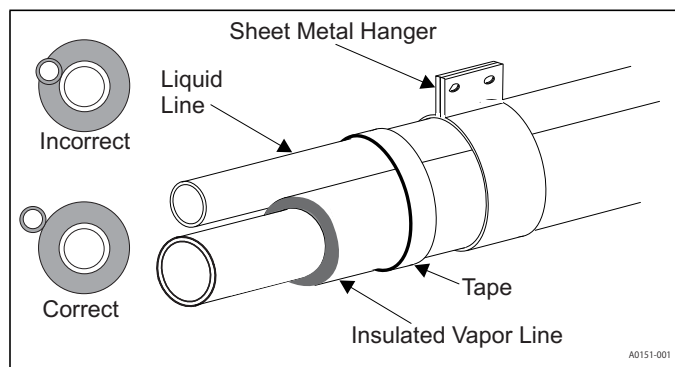

FIGURE 3: Installation of Vapor Line
5. Tape and suspend the refrigerant lines as shown. **DO NOT** allow tube metal-to-metal contact. See Figure 3.